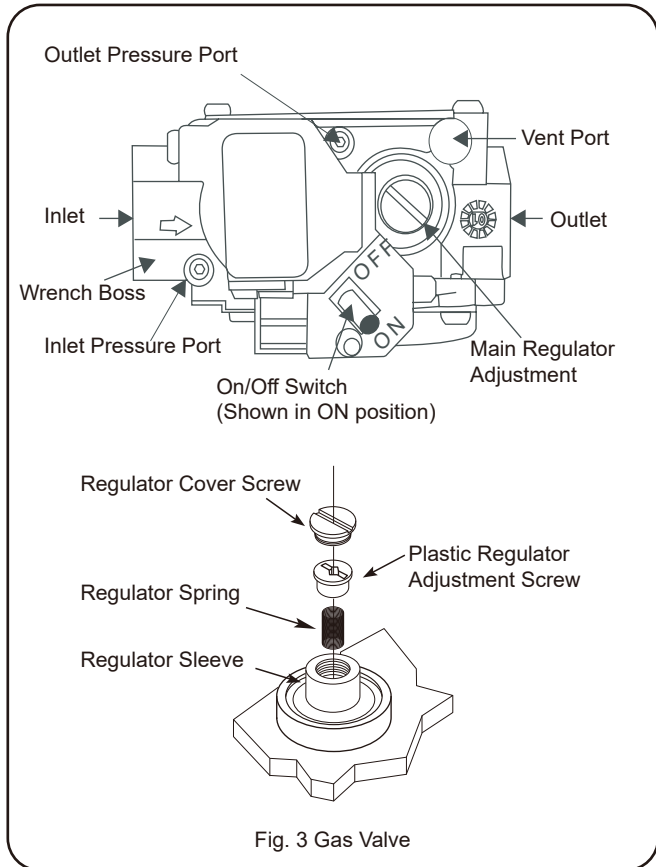

Fig. 3 Gas Valve
1. With a 3/32 inch hex wrench, loosen the manifold pressure tap plug located on the outlet side of the gas valve. Refer to Fig. 3.
4. Allow the furnace to operate for three (3) minutes and then check the manifold pressure. For LP gas installations, the manifold pressure should be set to 10" WC. If the manifold pressure is not set to the appropriate pressure, then it must be adjusted.
1. If the manifold pressure must be adjusted, then remove the protective cap from the top of the gas valve regulator, as shown in Fig. 3.